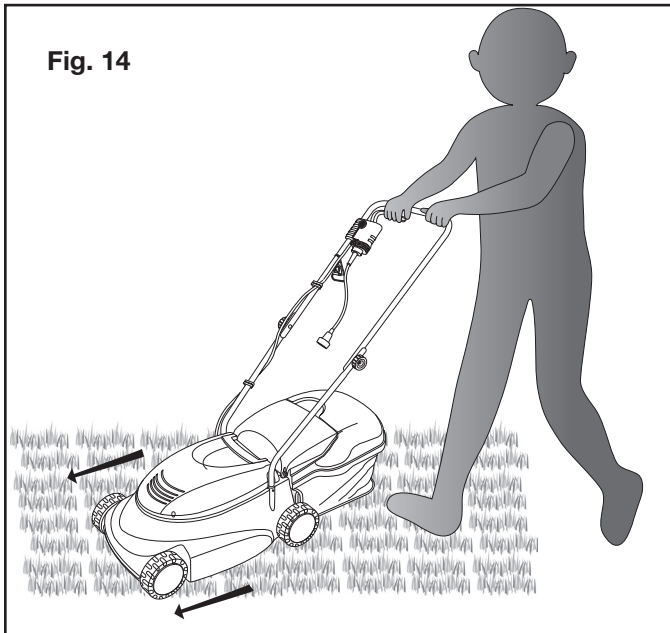

Fig. 14
- Once the machine powers on, release the safety lock button and let the motor get up to speed, gently lowering the mower down into the cutting position and start mowing (Fig. 14).